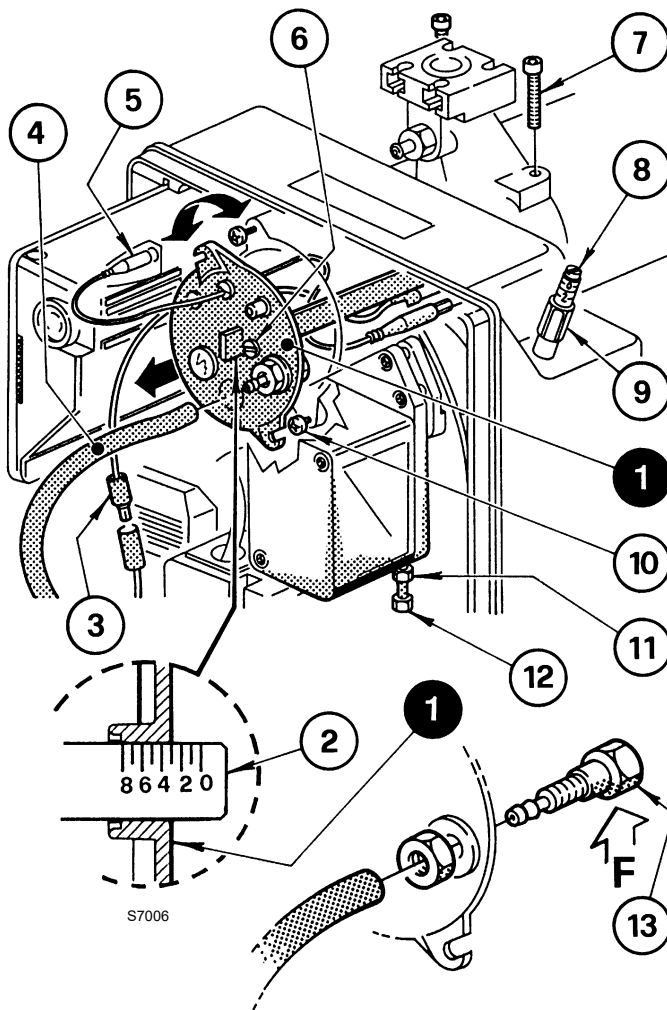

Fig. 11
This is carried out by turning the adjustment screw 6)(Fig. 11) clockwise or anti-clockwise until the notch on the regulating rod 2) lines up with the outside surface of the head assembly 1).
In Fig. 11 the head regulating rod is set to notch 3.
- disconnect the connections 3) and 5)(Fig. 11);
- remove the tube 4) and loosen the screws 10)(Fig. 11);
- unscrew and remove the screws 7), remove the head holder assembly 1)(Fig. 11) slight rotation to the right.
Take care not to change the setting position on the elbow-bracket 2)(Fig. 11) when dismantling.
Reverse the procedure above to put back the head assembly 1)(Fig. 11) as it was before.
Tighten the screws 7)(Fig. 11), without fully locking them. Lock them with a tightening torque of 3 - 4 Nm.
If the pressure test point 13)(Fig. 11) should become slack accidentally, we recommend fixing it correctly ensuring that the hole (F) in the head assembly 1)(Fig. 11) is facing downwards.